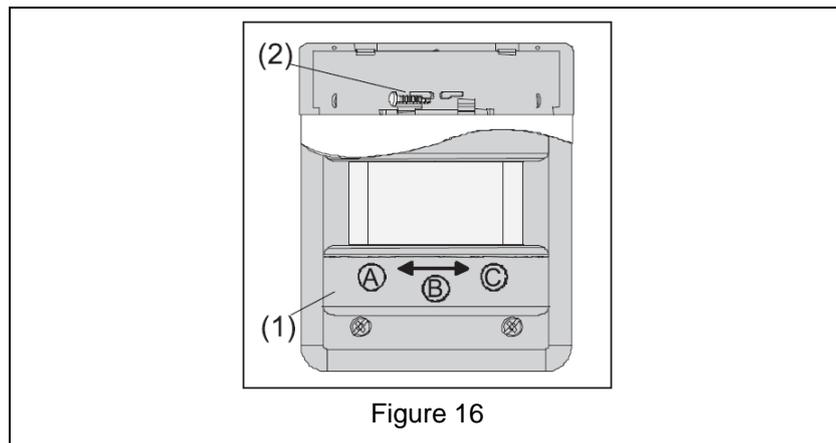

Figure 16
Shutoff delay, sensitivity and brightness can be adjusted to individual needs by means of potentiometers. The potentiometers are located behind the mode switch (1) on the front panel of the automatic switches (Fig. 16).